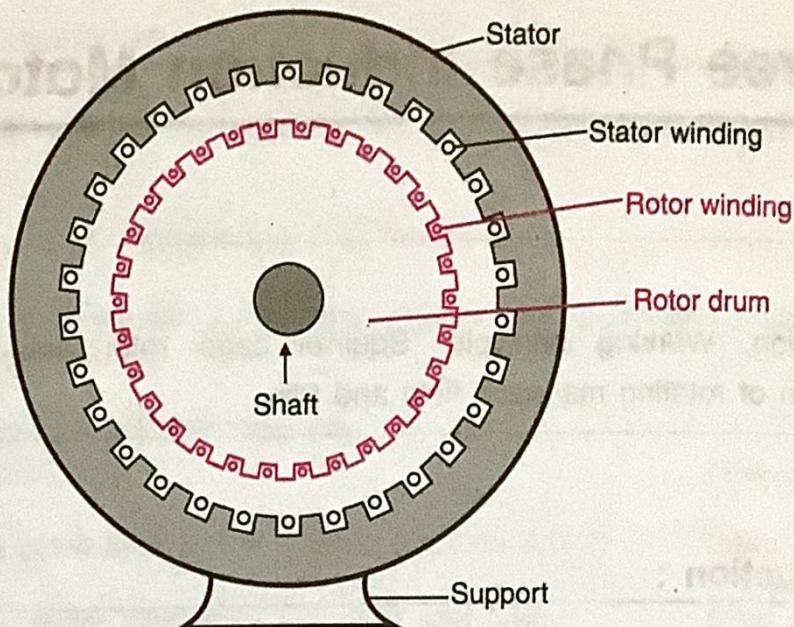

Fig. 8.3.1(a)
- Fig. 8.3.1(a) shows the stator and rotor.
- The stator is a stationary winding which can be a star connected or delta connected and connected to the 3-phase ac supply through a switch as shown in Fig. 8.3.1(b).